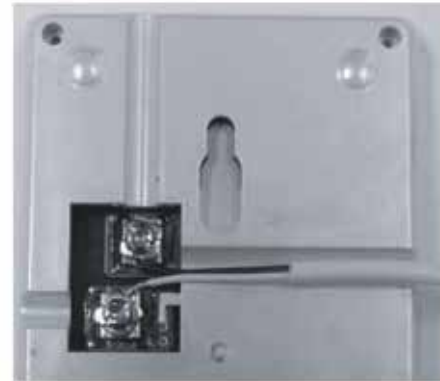

Figure 51: Attaching Connector Wire to Remote Temperature Sensor
3. Terminate the two communications cable leads at the screw terminals on the back side of the Remote Sensor. Polarity does not matter (**CN_ROOM**) (Figure 51).